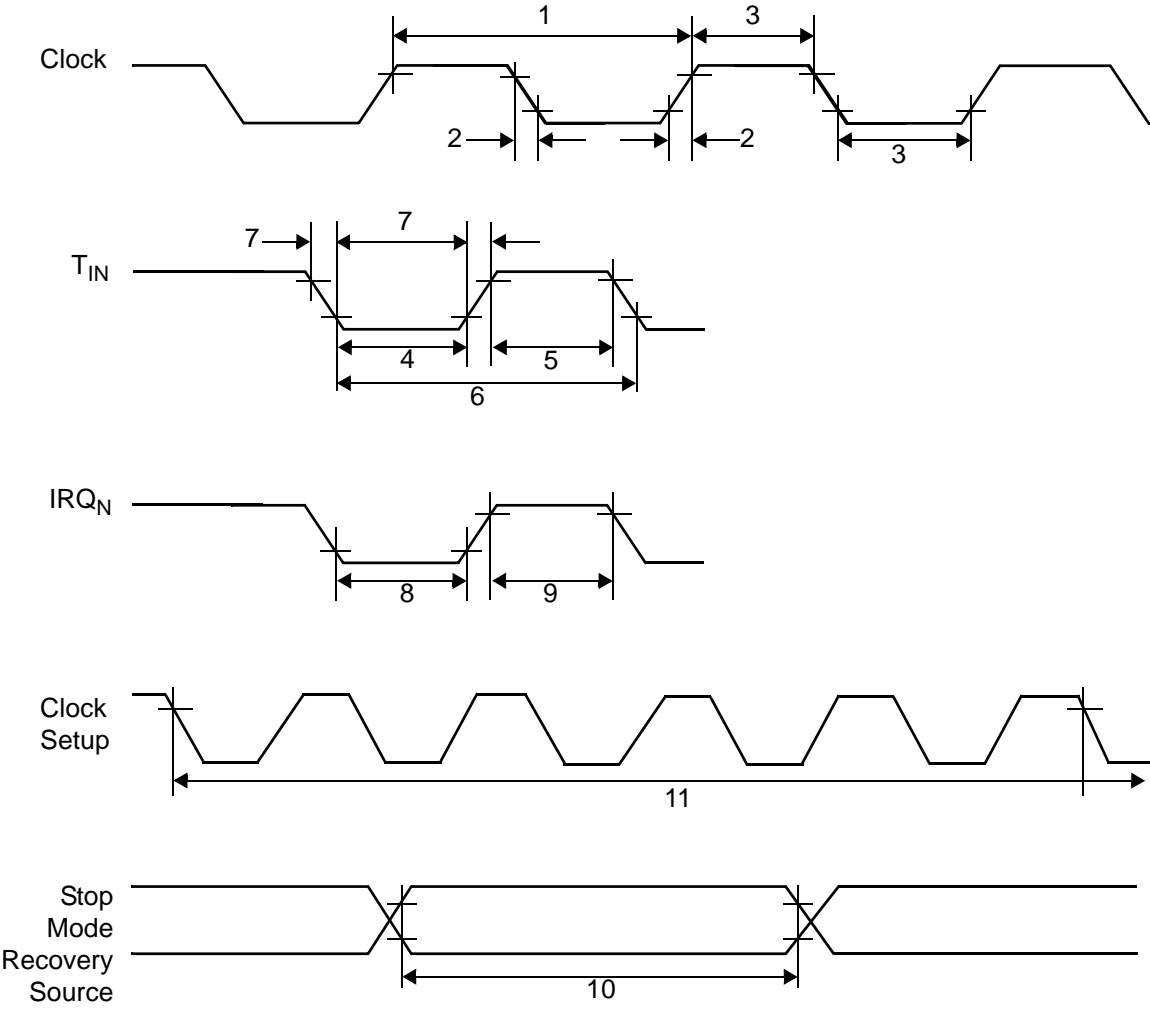

Figure 8. AC Timing Diagram
Figure 8 and Table 11 describe the Alternating Current (AC) characteristics.